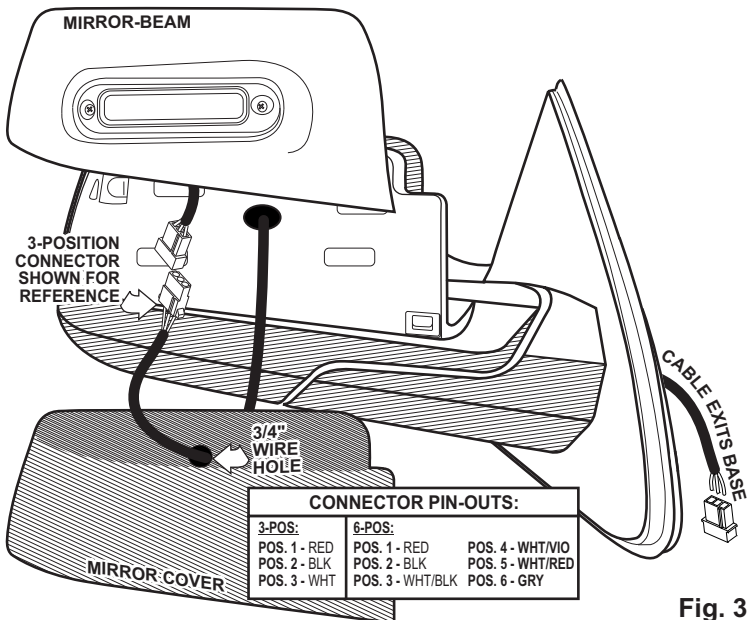

Fig. 3
4. Remove the ty-wrap from the cable. Install the connector (supplied) onto the end of the cable coming from the front of the mirror assembly (See Fig. 3 for connector pin-outs).
- Locate the factory-drilled hole in the Mirror-Beam™ housing (Fig. 3). Using a 125" drill bit and the housing as a template, drill a hole into the mirror assembly. Using the #8 x 1/2" black oxide phillips truss screw, secure the Mirror-Beam™ housing to the mirror assembly.